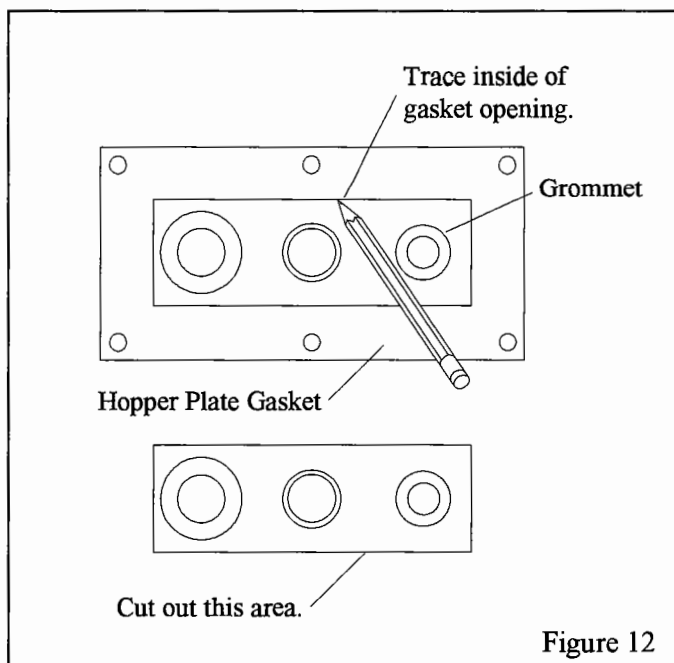

Figure 12
4.5 Run the media hose, air hose, and blow-off hose through the hopper plate, plate gasket and cabinet hopper cut-out, and through the cut-out in the grate, as shown in Figure 11. Use self drilling screws to attach the plate and gasket to the hopper. NOTE: Older cabinets do not have a hopper plate cutout in the hopper, the hoses go through grommets in the hopper. Use the hopper plate gasket as a template, placed over the grommets and trace the gasket opening onto the hopper, as shown if Figure 12. Cut out an opening around the tracing.